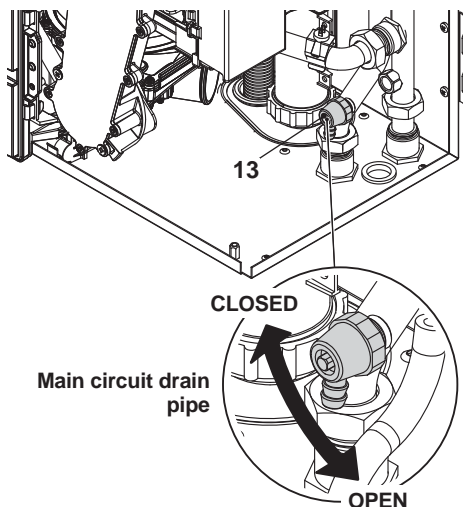

Fig. 9.5
- Loosen the central heating drain cock 13 indicated in Fig. 9.5.